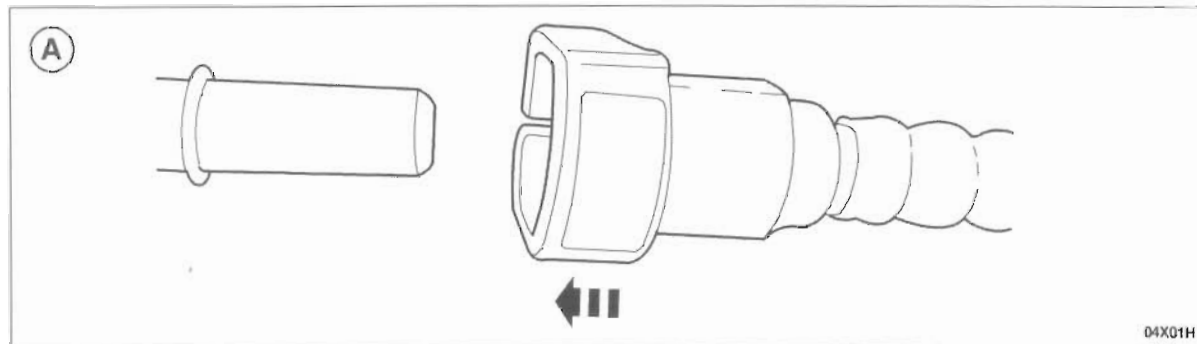

FIGURE 7
2. To reconnect: See Figure 7.